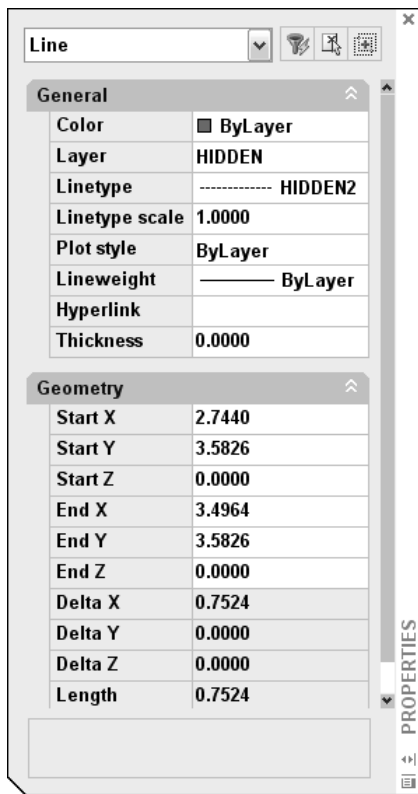

Figure 11-21: The Properties palette
- ♦ If you want to change other properties at the same time, select the object and choose Properties from the Standard toolbar. AutoCAD opens the Properties palette, shown in Figure 11-21. In this window you can change all the properties of the object. To change the color, choose Color and click the drop-down arrow that appears. Choose the color that you want.
- ♦ Select the object and choose Properties from the Standard toolbar. AutoCAD opens the Properties palette, shown earlier in Figure 11-21. To change an object’s linetype, click Linetype, and then click the drop-down arrow that appears. Choose from one of the linetypes.